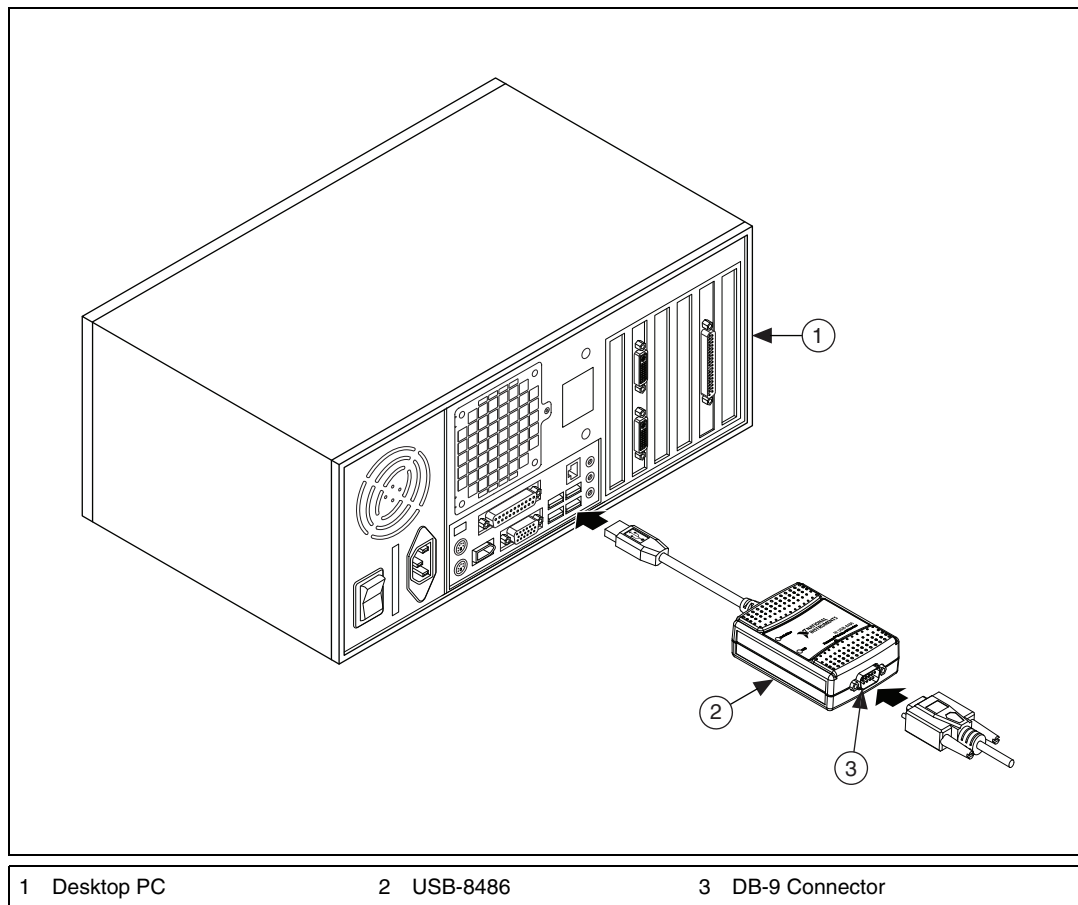
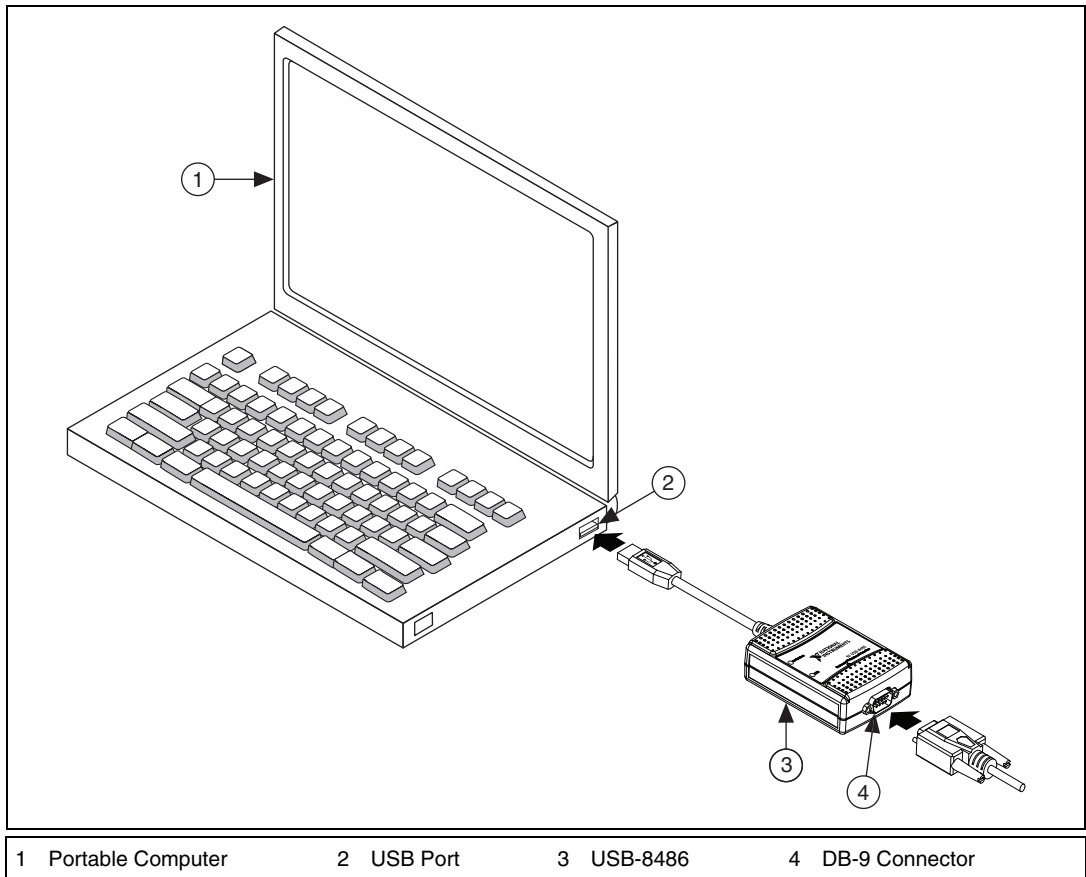

Figure 2-1. Connecting the USB-8486 to a Desktop PC
Figure 2-2. Connecting the USB-8486 to a Portable PC
2. Insert the USB-8486 into an available USB port on the system, as shown in Figure 2-1 or Figure 2-2.